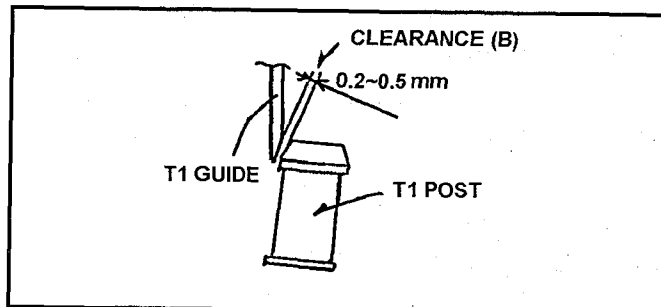

Fig. 10-8-2 Adjustment of T1 Guide
1. Observe the **clearance (B)** between T1 Guide and T1 post as shown in Figure 10-8-2. And make sure that it is within **0.2 to 0.5mm**.
2. If not, loosen the **2 screws (A)** and adjust the position of T1 Guide by moving to arrow direction ($G \leftrightarrow G$) so that the **clearance (B)** is within specification. And tighten the **2 screws (A)**.